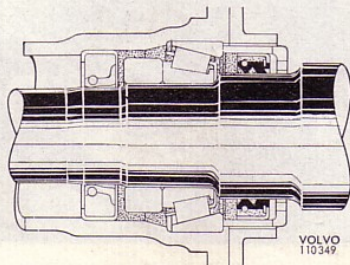
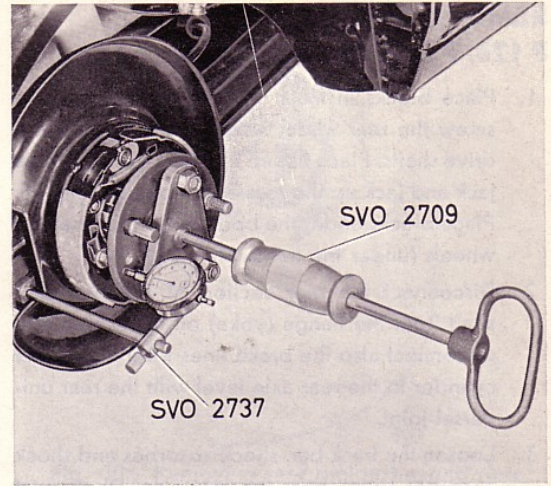

Fig. 24. Lubricating rear axle bearing
Fig. 25. Measuring axial play for drive shafts
13. Pack the bearing well with a high-class, multi-purpose grease and then fit the drive shaft, brake backing plate and retainer. After installing, the entire space between the oil seal should be filled with grease, see Fig. 24. Check the axial play, which should be 0.05—0.13 mm (0.0020—0.0052"), with a dial indicator and holder SVO 2737, see Fig. 25. First, press out the outer rings in their bearings with the help